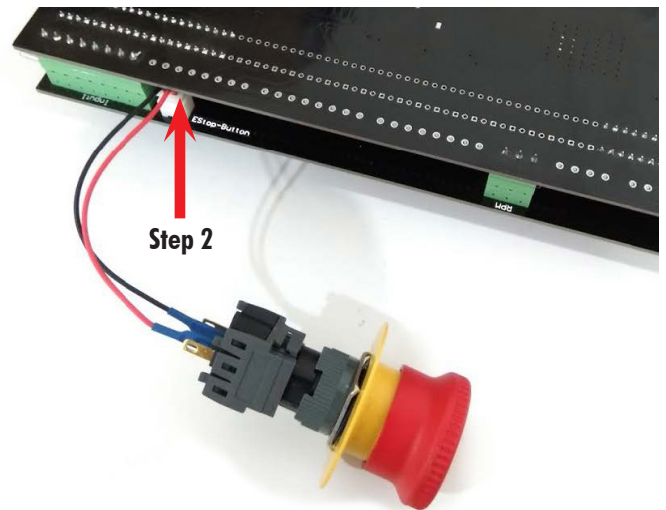

FIGURE 2—The red wire is on the right of the white, E-stop connector.
2. Cut the red wire as close to the white, E-stop button connector as possible (see Figure 2).